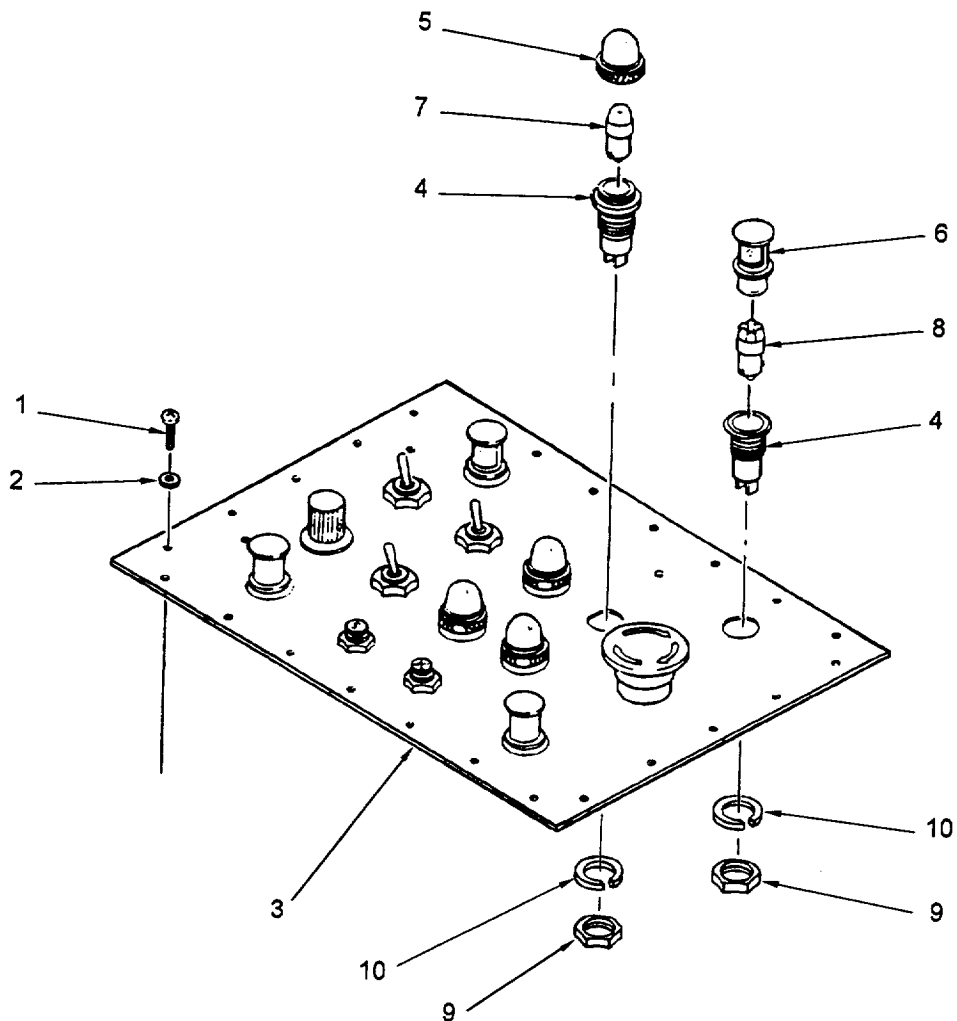

Figure 5-10. Control Panel Lamp/Panel Light Assembly Replacement
5.7.1 Replace Control Panel Lamp Assemblies/Panel Lights. (Refer to figure 5-10.)